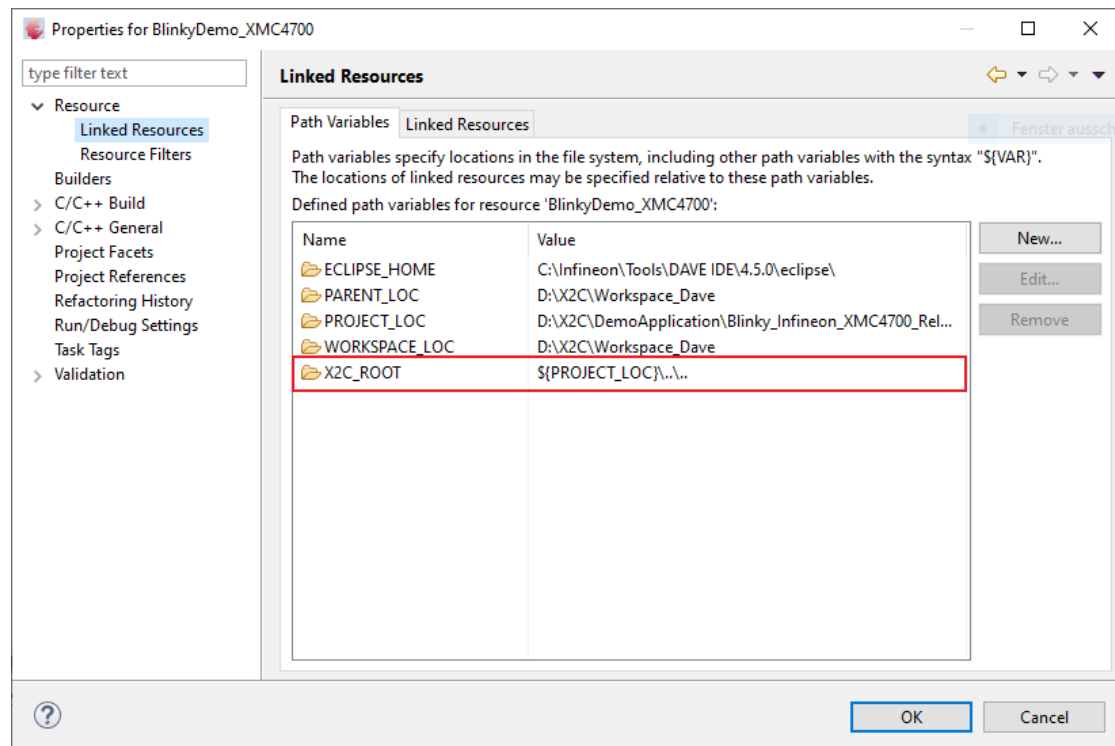
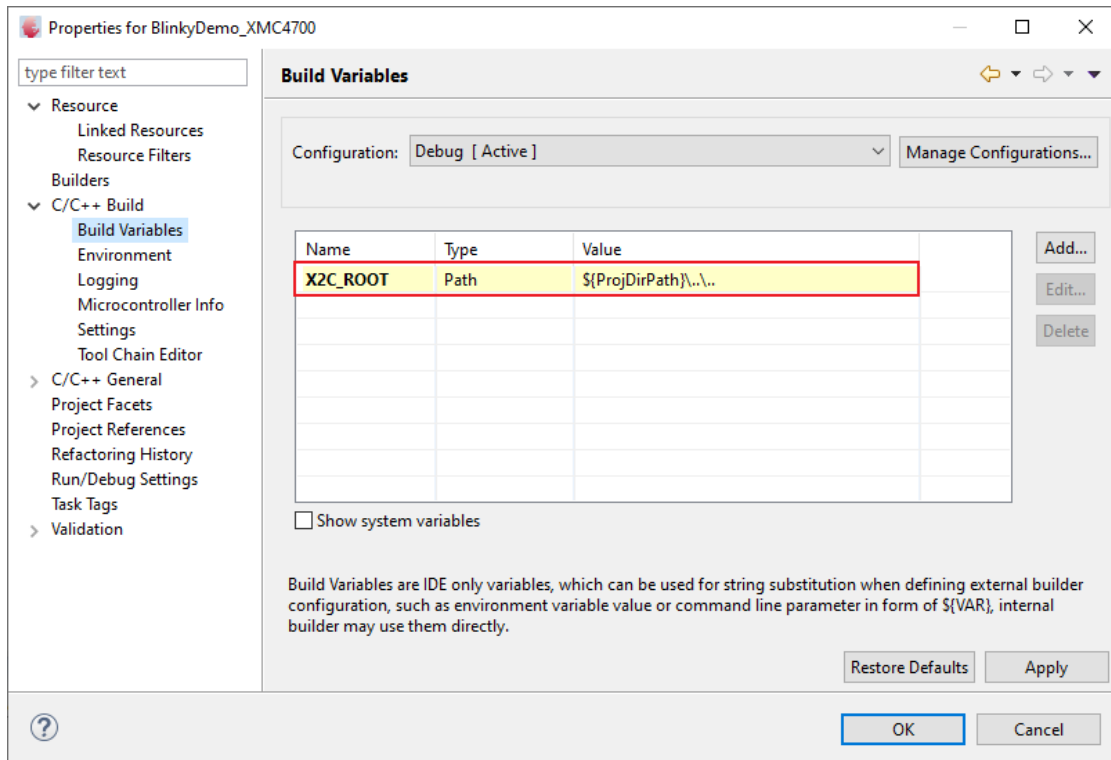

Figure 36: *DAVE IDE* resources settings
Figure 37: DAVE IDE build variables setting
3. In the *DAVE IDE* file structure of the *Blinky* demo project are two virtual folders *X2C-Blocks* and *X2C-Core*, which are linked relatively to the *X2C* directory. If the *Blinky* demo project is copied/moved to a different location, the resource property *X2C\_ROOT* as seen in Figure 36 and the build variable *X2CDirPath* as seen in Figure 37 have to be adapted.